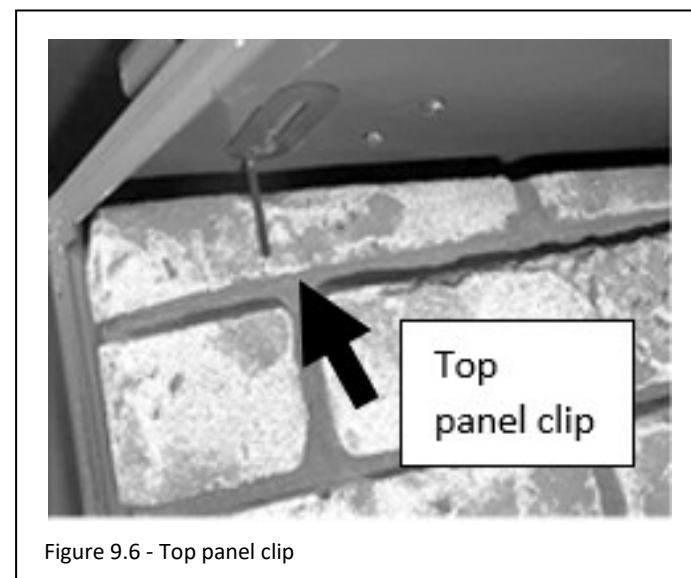

Figure 9.6 - Top panel clip
2. Install side refractory by sliding top of panel up and into position. Secure with panel clips previously bent (Figure 9.6).
3. Install side refractory by sliding top of panel up and into position. Slide bottom of refractory until tight to side of firebox. Secure side refractory with bottom panel clips and (4) screws (Included in kit).
4. Install top refractory clips previously bent (Figure 9.6).